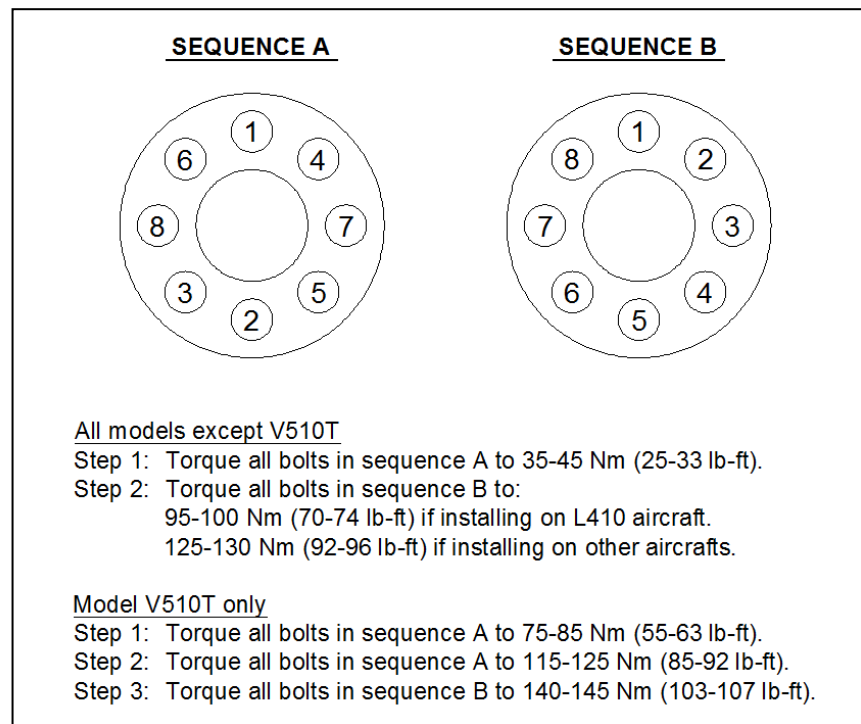

Figure 5-11
- (c) Using the torque wrench and 19 mm (3/4 inch) adaptor, torque all mounting bolts using the procedure shown in Figure 5-11.